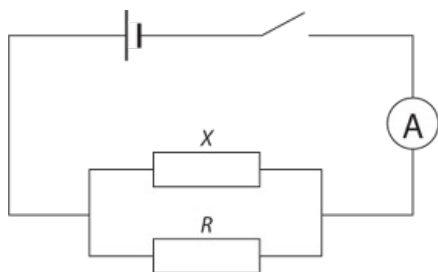

Figure 6.4: Circuit diagram.
- 1 Set up the circuit shown in Figure 6.4. Both resistors X and R should have values of resistance equal to 100 Ω . The multimeter should be set in the range 0–200 mA.